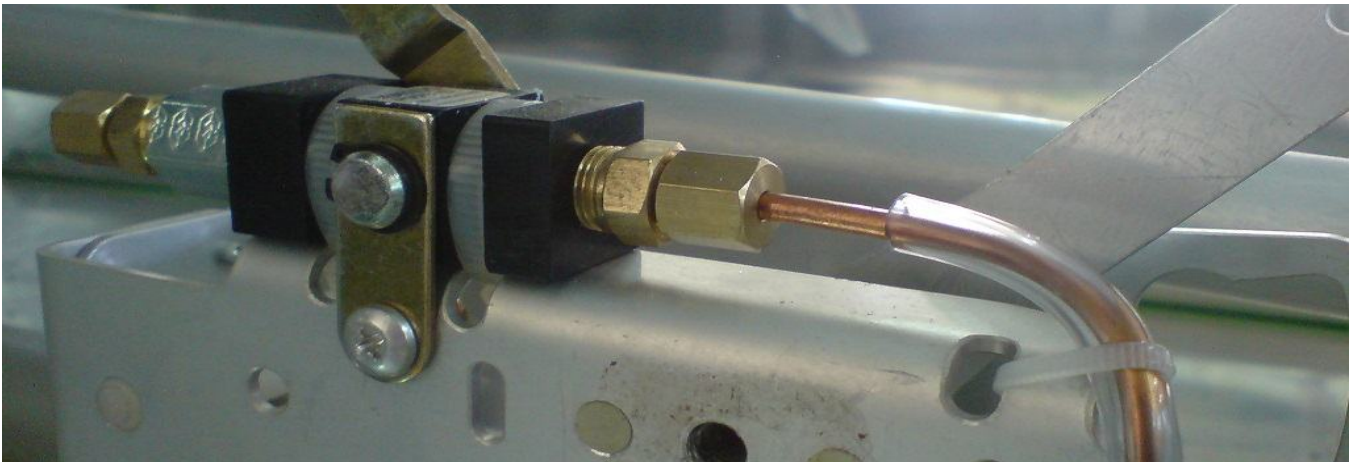

Fig.1
3. Undo the screw attaching the parking brake valve (see fig. 1).
10. Fix the parking brake valve with its attachment screw (see fig. 1).